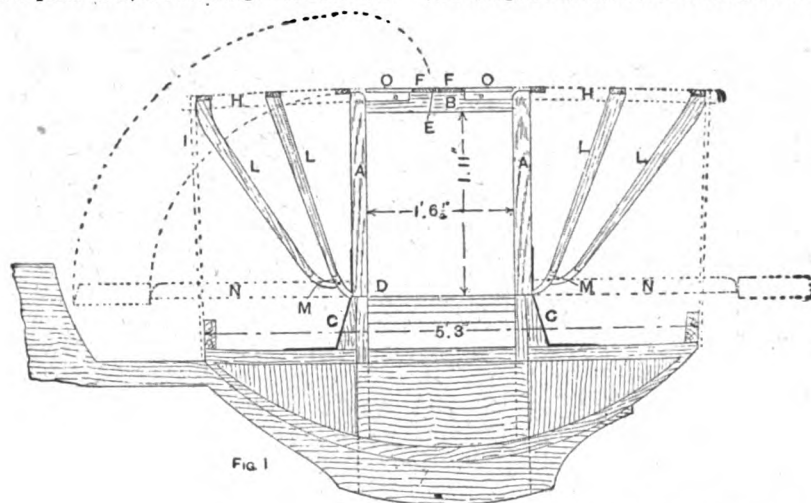
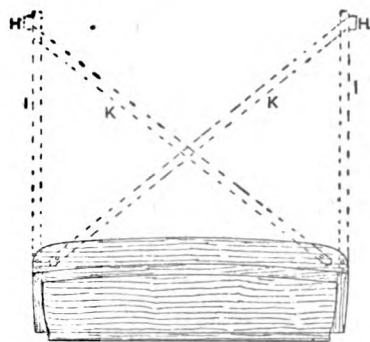
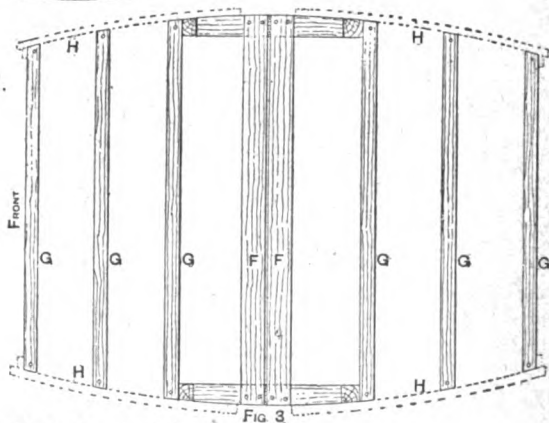

Fig. 1
Fig. 2
Fig. 3
Making a Cheap Time and Instantaneous Shutter.—An inexpensive time and instantaneous shutter suitable for a magazine hand camera may be made of cardboard as follows. Cut a piece of stout pliable card—a good photographic mount answers well—to the pattern shown in Fig. 1. Next cut a piece like Fig. 2, and attach at A to the first piece on the underside with a stud or rivet U. Bend under, flat, the two pieces B and C (Fig. 1), and attach to the inner board, thus forming a support, and leaving a space for the shutter to work in. Now cut in thin metal a piece like Fig. 3, and bend on the dotted lines. Force the points D and E through the card at F and G (Fig.
2), and turn these and the flaps H and I down flat, thus holding it firm. Fasten a piece of fine black cord to H and I, and bring through the two opposite sides of framework, and fasten outside a button or bead. By this means the shutter may be pulled from side to side. Now fasten a rubber band by a slip-knot through K (Fig. 1), and put the other end of the loop over L. If the shutter is now pulled over by the right-hand button it will need only a slight pull of the left to cause it to spring across and give an instantaneous exposure. Time exposures may also be given.
Fitting the Head of a Landau.—The accompanying sketches show how the framework of a landau head is fitted up, and also a plan of the position of the hoop-sticks when fixed in place. First get out the top pillars A, A (Fig. 1), which are 2 in. thick by the width of the door pillar at the bottom or hinge end, tapering to 2½ in. wide at the top, and the cant rails B, 2½ in. deep, straight on the inside, to come flush with the pillars on the outside, sweeping out to the side sweep of the body; then cut the top part of the body standing pillar to a taper, to take the hinge C, so that it comes flush with the back of the pillar A, being careful to see that the face of the pillar A is kept level with the inner face of the door pillar at D, so that the glass frames will
for the body closing in: the cant rail is boxed out to line with the pillars, ½ in. deep. Run the quirks on the outside, cut the joint in the cant rail E, and let in the dovetail catches on the top to keep it in place. To prevent it opening whilst fitting up the other parts, tightly fit a slip of wood in the glass course, fixing the two halves of the cant rail to it with screws. Having fixed on the pillars and cant rails for good, and having seen that they line with one another, fix on the two centre hoop-sticks F, F (Fig. 3), which are 3 in. wide by 1 in. thick, and are planed off at the ends so that they fit flat on top of the cant rail. The front one is kept over the joint in the cant rail until it lines with the male part of the dovetail catch, a clear space of ½ in. being left between the two hoop-sticks to allow room
for the cloth and lace trimming on the edge. To fit up the narrow hoop-sticks G (Fig. 3), it is necessary to fit around the top part a frame or scaffold, indicated by the dotted lines H (Figs. 1, 2, and 3); the top ones are 1½ in. deep by 1 in. thick, true to the side sweep of the body on the inside edge, fixed to the cant rail by a screw, in line with the top of the wide hoop-sticks already fixed. At the corners, strips I (Figs. 1 and 2) are screwed on at the top, being fixed to the back and front rails at the bottom (see Figs. 1 and 2), when the top line of the frame should have a drop of 1 in. from a straight line, and a sail out in length of 1 in. beyond the square line, both back and front. To keep the frame its proper width, two laths K, K (Fig. 2) are tacked across at the back and front, afterwards testing for correctness with a wax line. The slats L (Fig. 1) are now got out, the front and hind ones being slightly curved at the top, full 1 in. thick by the width of the hoop-sticks G (Fig. 3) at the top, tapering to nearly the width of the slat-iron M (Fig. 1) at the bottom; they are very slightly swept on the outside, and in fitting them up they have to rest against the framework at the top and on to the slat-iron at the bottom; this gives a twist to the two bearings, which is worked out a good bit
in rounding them up. At the top they are kept $\frac{1}{4}$ in. below the top edge of the frame, the hoop-stick making up, when let on, the remainder. The slat-sticks are rounded off at the bottom end about $\frac{1}{4}$ in. below the last screw-hole in the slat-iron, but should not be fixed for good until the whole is fitted up. In some cases it is necessary to fix on a small corner block behind each pillar, to carry the first narrow hoop-stick; in other cases a flap is left on the fitting, to which they are fixed. Having got them all in place, hold a long lath flat on the centre hoop-sticks, press down each end, and see that it bears fair on each stick; should it not do so, alter the fixing on the slat-iron either up or down, as may be required. After it is correct, tack on two strips of webbing from the centre hoop-sticks over the others on to the cross rails of the body, keeping it tight and tacking to each hoop-stick; take away the frame round the body, loosen the screws in the strips in the cant rail, lower the head to see that it works all right, when the pillars should be as shown at N (Fig. 1). If all is correct, put it back in its place, securely fix the slats to the irons, put on the filling-up pieces O (Fig. 1) on top of the cant rail level with the hoop-stick and flush with the end of the rail, this and the top corners of the hoop-sticks being canvased about $\frac{7}{8}$ in. each way, and the bottom of the slat
join the three together with a binding strip over each joint, making the ends square. While this is drying join the three remaining cards in the same way, the wide one being in the centre. Then turn both parts over, adjust evenly, and join again, when the whole will appear as in Fig. 1, where the blacker line at D shows the binding strips in view, the joints B, C, E, F, having been joined on the other side. Next join the ends A, which is done by holding them over a flat ruler while sticking on the strip. These strips act as light-tight hinges, so that the whole will fold up flat, as shown in section partly closed in Fig. 2. The letters at the joints in Figs. 1 and 2 correspond, and make this quite clear. For the bottom, cut a piece of tin $\frac{1}{4}$ in. by $\frac{1}{4}$ in. and turn the edges up $\frac{1}{4}$ in. full all round, snipping out the corners. This will make a tray that will fit loosely inside. To make the top, cut a piece of tin to the shape shown in Fig. 3, bend at the broken lines and cut at the full lines, so that it appears as shown by Fig. 4. The edges projecting downward will be $\frac{3}{4}$ in. apart, to fit inside the lump (see section, Fig. 4). The flanges bent up form light shades in one direction for the ventilation hole. A second piece of tin will shade in the other direction, and this must be cut as shown in Fig. 5, and bent along the dotted lines, and slightly curved as at S.